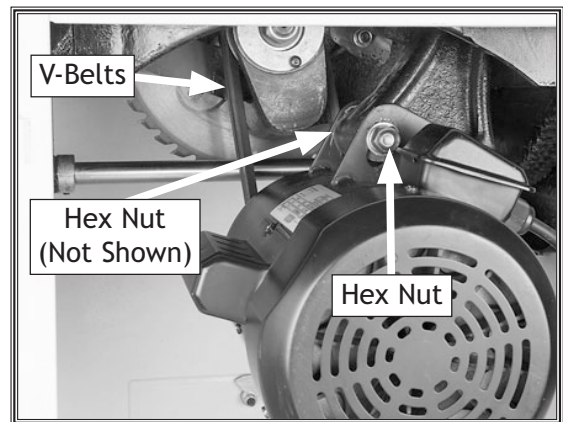

Figure 112. Motor mounting nut.
3. Loosen the hex nuts on the motor shown in **Figure 112**, and pivot the motor up and down to make sure that it is movable.
3. Loosen the hex nuts that secure the motor (see **Figure 112**) and raise the motor fully to remove tension on the V-belts. Roll the V-belts off of the arbor and motor pulleys. Install a new matching set of V-belts onto the pulleys, lower the motor to tension the V-belts, then tighten the hex nuts.